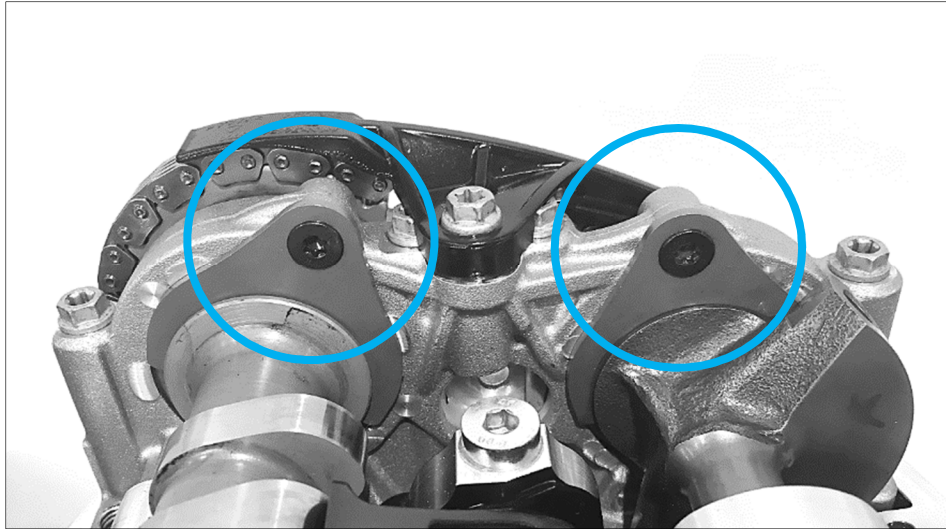

Fig. 1 – Locking plate mounting screws
It has been determined that during the engine assembly process that the locking plate screws shown in Fig.1 for the camshaft and balancer shaft possibly were not mounted correctly on the following models: 2019 690 Enduro R and 2019 690 SMC R.
5. Remove and clean the two camshaft and balancer shaft locking plate screws shown in figure 1.